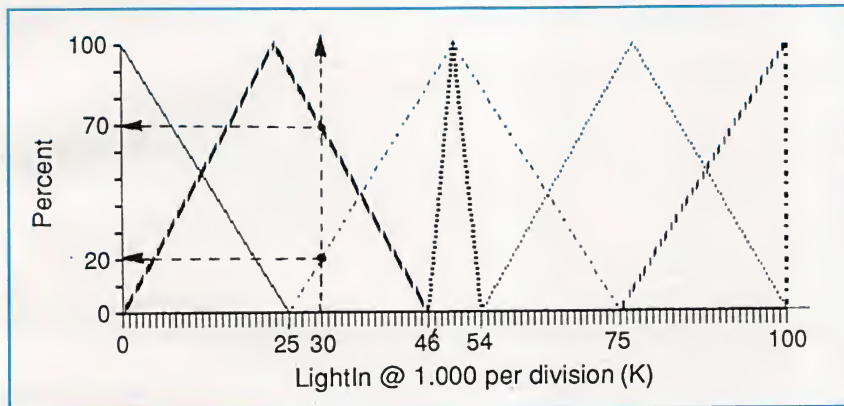

Fig. 7. LightIn wave shape.
To select input shapes, first establish what values belong in each set. This defines the base of the shape. The left-bottom is the minimum, the right, the maximum. Next, determine when the fuzzy set becomes 100% true. For example, referring to the Dark shape in Fig. 7, the room is completely dark (membership is 100%) at only one point, the shape's peak. If desired, you could replace the
Overlap shapes whenever values belong to more than one set. When the input value for the Fig. 7 LightIn graph is within the dark shape, three components—VeryDark, Dark and DarkLight—interact. This is how the absolutes so common in conventional logic are prevented. Instead of specifying dark as a singular set of values, we say it consists of a varying degree of three values.
(3) Of all the components, output shapes have the least effect.
• **Input to Fuzzy Value.** To see how the fuzzy value for a given input is derived for the completed graph for LightIn shown in Fig. 7, I'll use an input of 30,000 ohms.